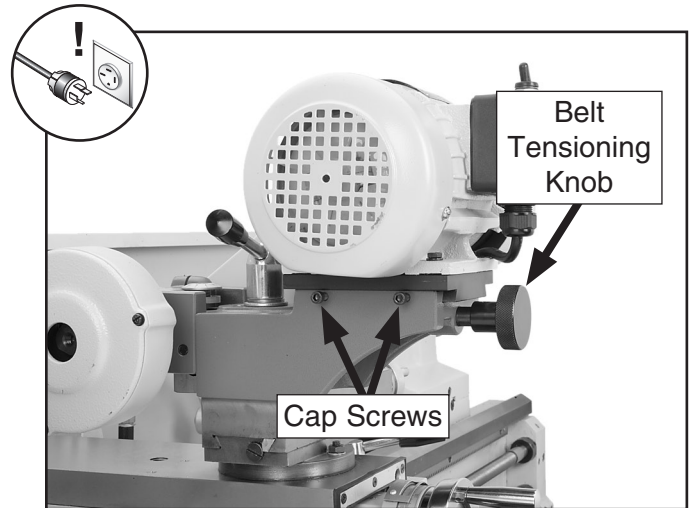

Figure 14. Belt tensioning controls.
3. Loosen the two cap screws on the right side of the grinder base so that the motor mount can slide along the dovetail way (see **Figure 14**).
3. Loosen the two cap screws on the right side of the grinder base so that the motor mount can slide along the dovetail way, then use the belt tensioning knob to move the motor assembly forward toward the spindle (see **Figure 14**).